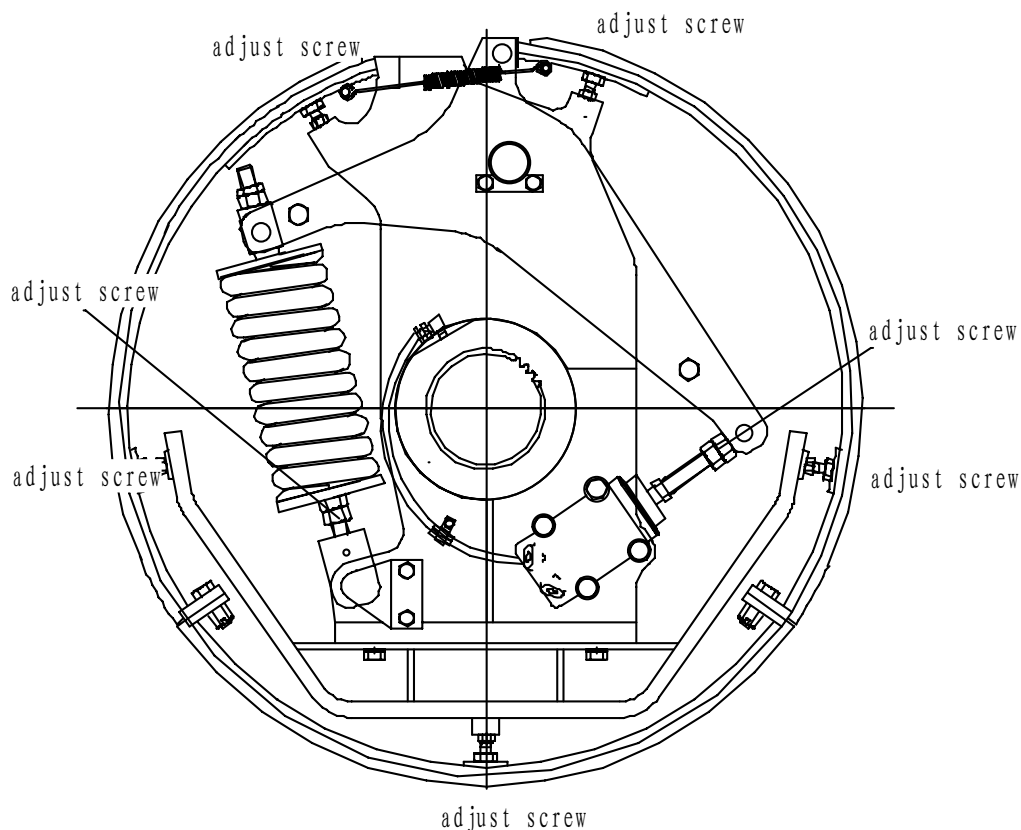

Fig. 6-7
6.5 Adjustment of clutch, see Fig. 6-7: